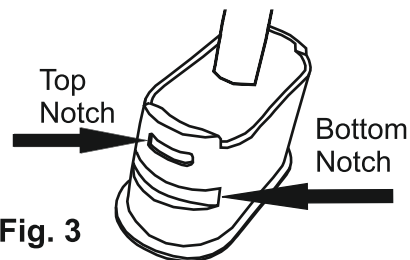

Fig. 3
- 3) The sensor module has two notches as shown in Fig. 3.